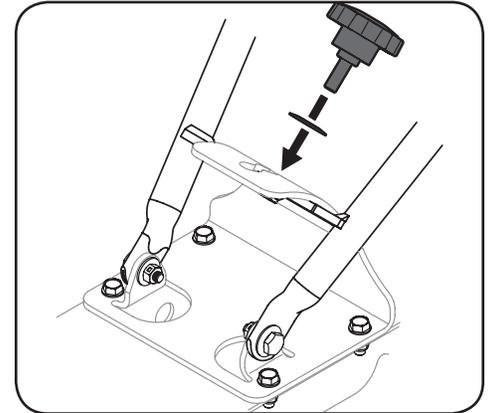

Figure 3-4
7. Thread the height adjustment knob through the washer (.760 x 1.250 x .041) then into the hole in the handlebar cross-brace. See Figure 3-4.